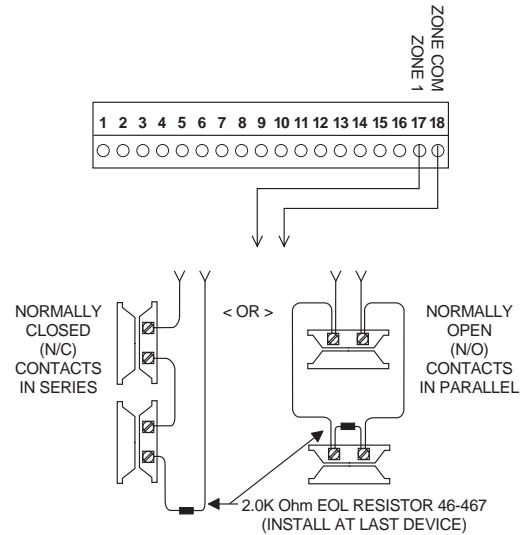

Figure 9. Module Zone Input Wiring
Figure 9 shows an example of how to connect normally closed (N/C) or normally open (N/O) intrusion circuits to the module zone input.
Connect the normally closed reed switch (in series with a 2.0K ohm [ITI part number 46-467] EOL resistor) to the module ZONE 1 (17) and ZONE COMMON (18) terminals (Figure 9).